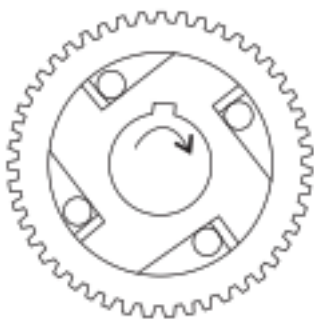

FIGURE 2-1
- Be sure to install in correct position (see Figure 2-1) and lubricate all of the pins in the sleeve drive when assembling.